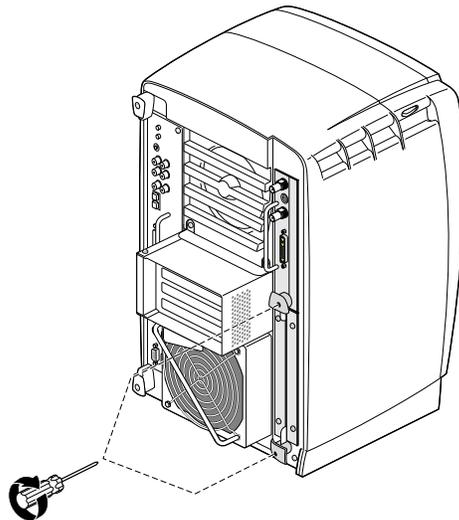

Figure 5-19 Tightening the XIO Tri-Module Screws
6. Tighten the captive screws in the sliding handles, as shown in Figure 5-19.